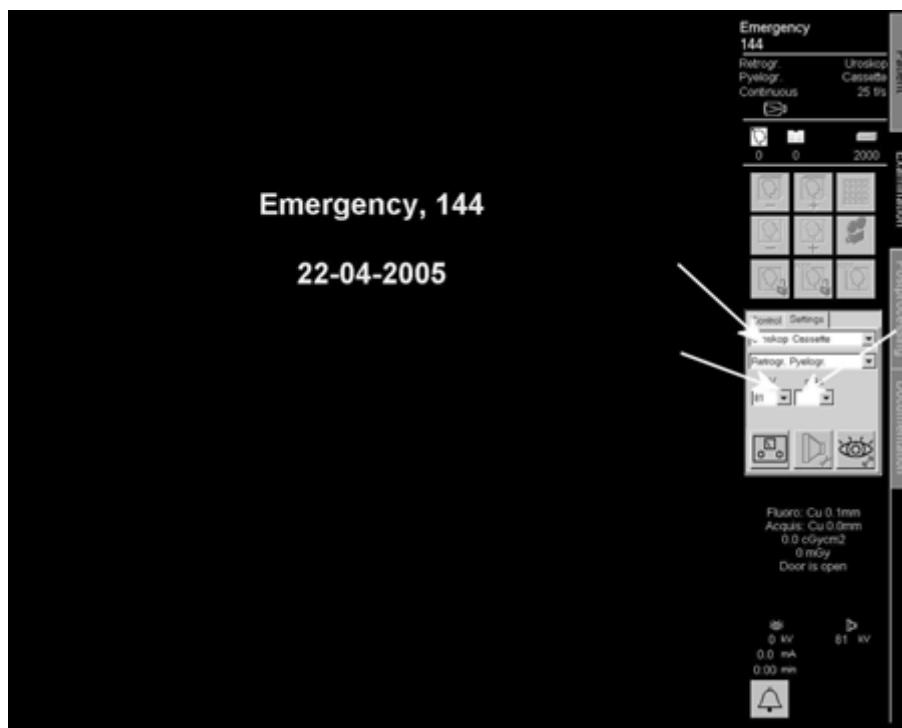

Fig. 11:
- Select the **Examination** tab and select **Uroskop Cassette, 70 kV and 320 mAs** in the selection menu for the **Settings** tab (Fig. 11 / p. 30).